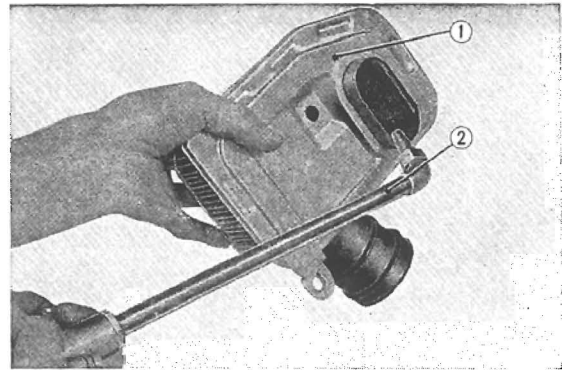

Fig. 4.44 Cleaning the air cleaner
4. Air cleaner which is clogged with dust should be blown off with dry compressed air or cleaned by light brushing. **(Fig. 4.44)**